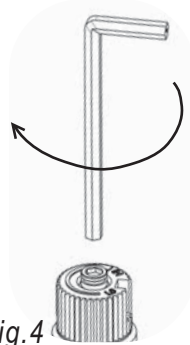

Fig. 4
- 12) Using the Allen wrench as shown in Fig. 4, rotate the screw clockwise until snug, do not overtighten.